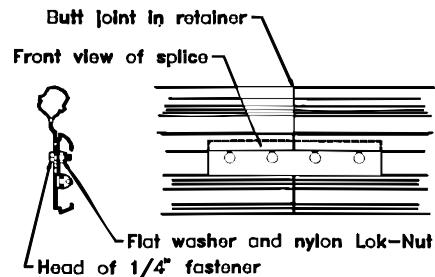

Fig 9
- Step 9:** Refer to **fig. 9** for splicing of aluminum retainer on longer handrail lengths.